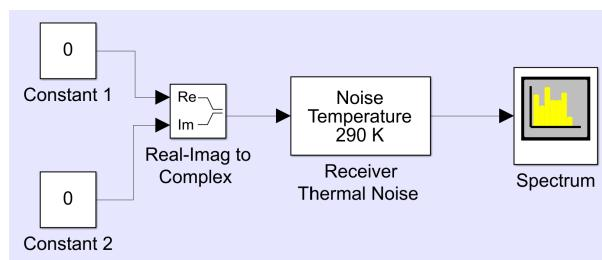

*Fig. 11: Sum of signals*
- 6) To observe the output on the Scope of sum of signals, we connected the blocks as shown in Fig. 11. We set up the parameters as listed in the following: